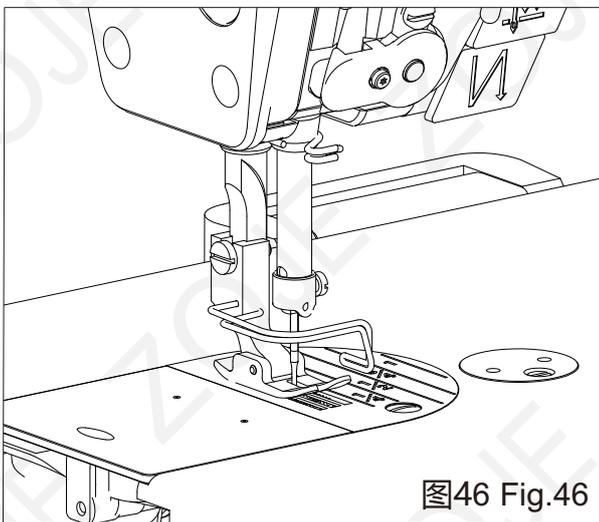
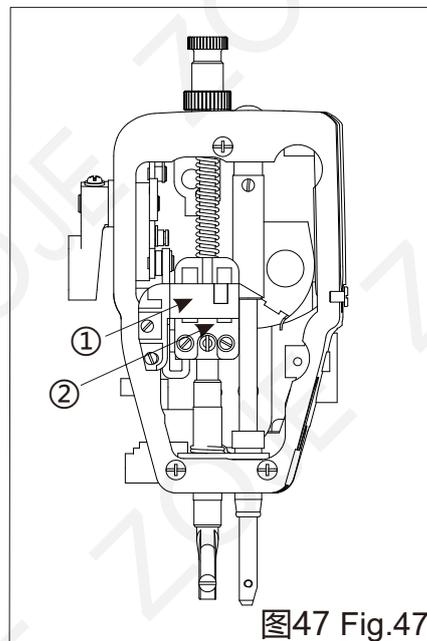

图46 Fig.46
图47 Fig.47
35 高度传感的调节(图46、图47) Adjustment of height sensing(Fig. 46, Fig. 47)
开机，按住P键进入，找到P42-N13，按S进入。转动手轮，直到牙齿完全没入针板(如图46)。调整传感器①位置，同时查看P42-N13显示值，调整直到数值显示 1010 ± 5 ，拧紧两螺钉。(如调整传感器①无法成功，可同时调整磁铁②的位置。
Turn on the machine, press and hold the P key to enter, find P42-N13, press S to enter. Turn the handwheel until the feed dog is completely submerged into the needle plate (as shown in Figure 46), adjust the position of the sensor ①, and at the same time check the P42-N13 display value to adjust until the value shows 1010 ± 5 , and tighten the two screws. (If the adjustment of the sensor ① cannot be successful, the position of the magnet ② can be adjusted at the same time.)